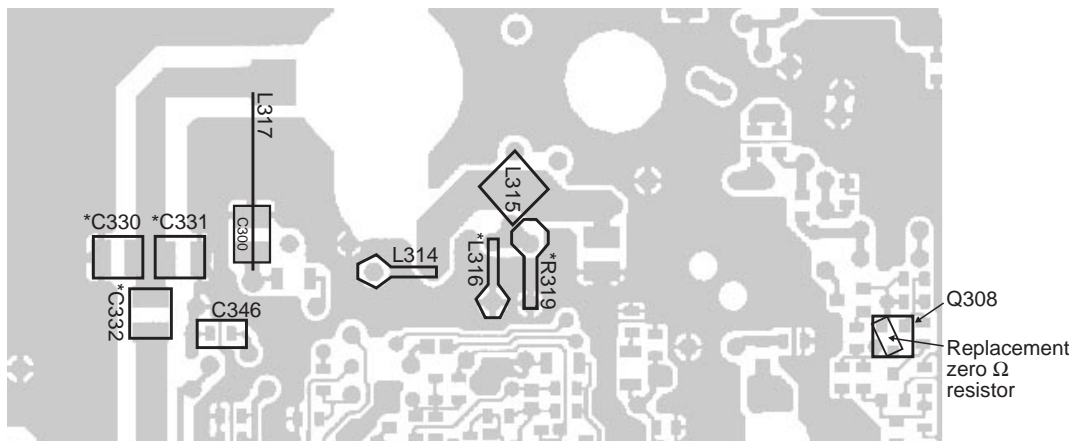

Figure 8.3.1 T2000-500/600 PA - Top Side
- 1 Refer to Figure 8.3.1.
- 3 Remove the output matching capacitors, *C330, C331 and *C332 from the top side of the PA (shown in Figure 8.3.1).